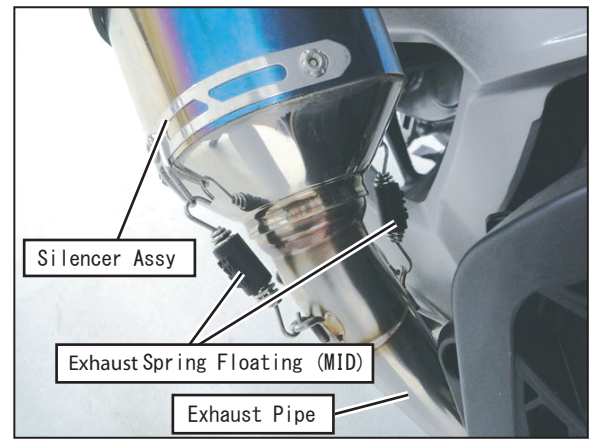

FIG. 10
- 9) Mount Silencer Assy on the Exhaust Pipe. Then, Install Exhaust Spring onto spring hook on Exhaust Pipe and Silencer Assy (See Fig. 10).